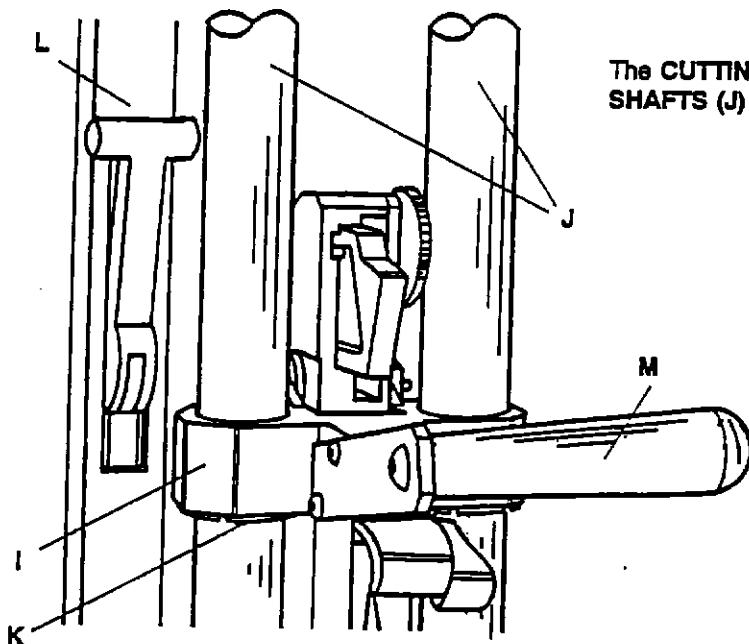

Figure 7
The **CUTTING HEAD** (I), Figure 7, slides on two polished chrome plated steel **SHAFTS** (J) with 3 low friction **BUSHINGS** (K) for smooth operation.